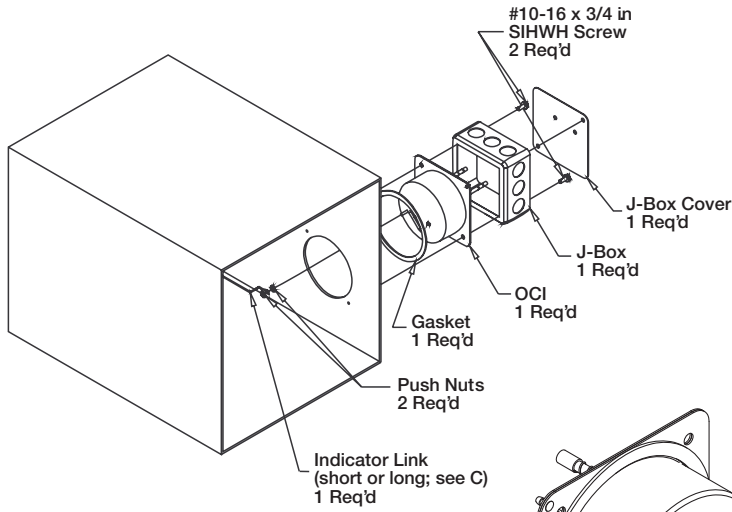

Figure 5: OCI -Exploded View
4. Insert OCI unit through the hole in the sleeve (round end inside). See **Figure 5**.
6. Mount OCI/J-box assembly to the sleeve/sideplate with #10 - 16 x 3/4 in. (19mm) TEK screw (or equivalent) (Figure 5).